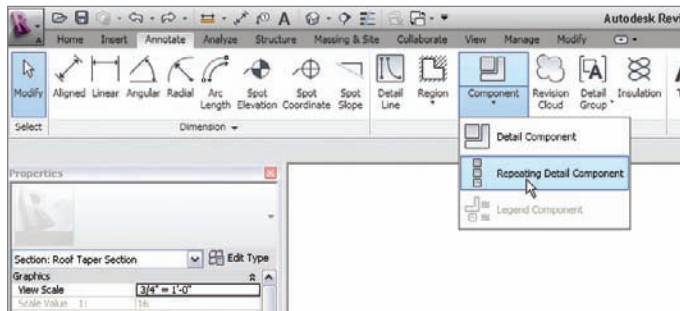

FIGURE 12.10 Select Component > Repeating Detail Component.
1. On the Detail panel of the Annotate tab, select Component > Repeating Detail Component, as shown in Figure 12.10.